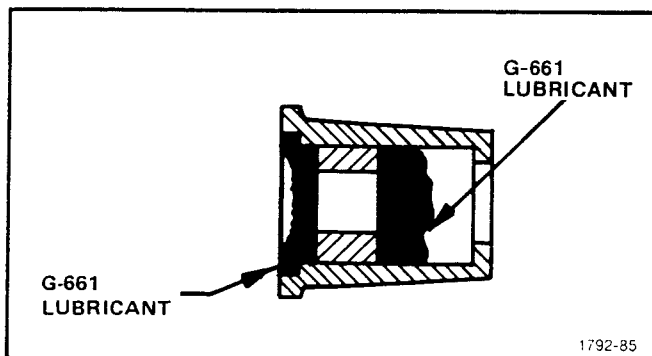

Fig. 5-30. POSITION Control Knob
- a. Apply G-661 lubricant to POSITION knob per Figure 5-30.